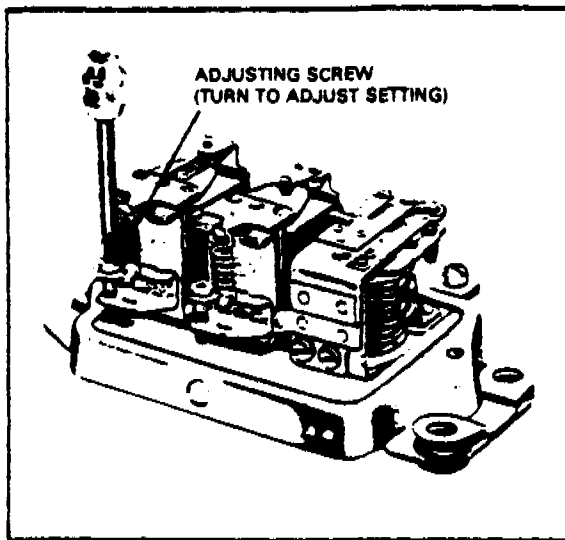

FIGURE 9-6. ADJUSTING VOLTAGE REGULATOR SETTING
h. To adjust voltage setting turn adjusting screw (Figure 9-6). Turn clockwise to increase setting and counterwise to decrease voltage setting.
- e. Adjust in same manner as described for the voltage regulator (Figure 9-6).